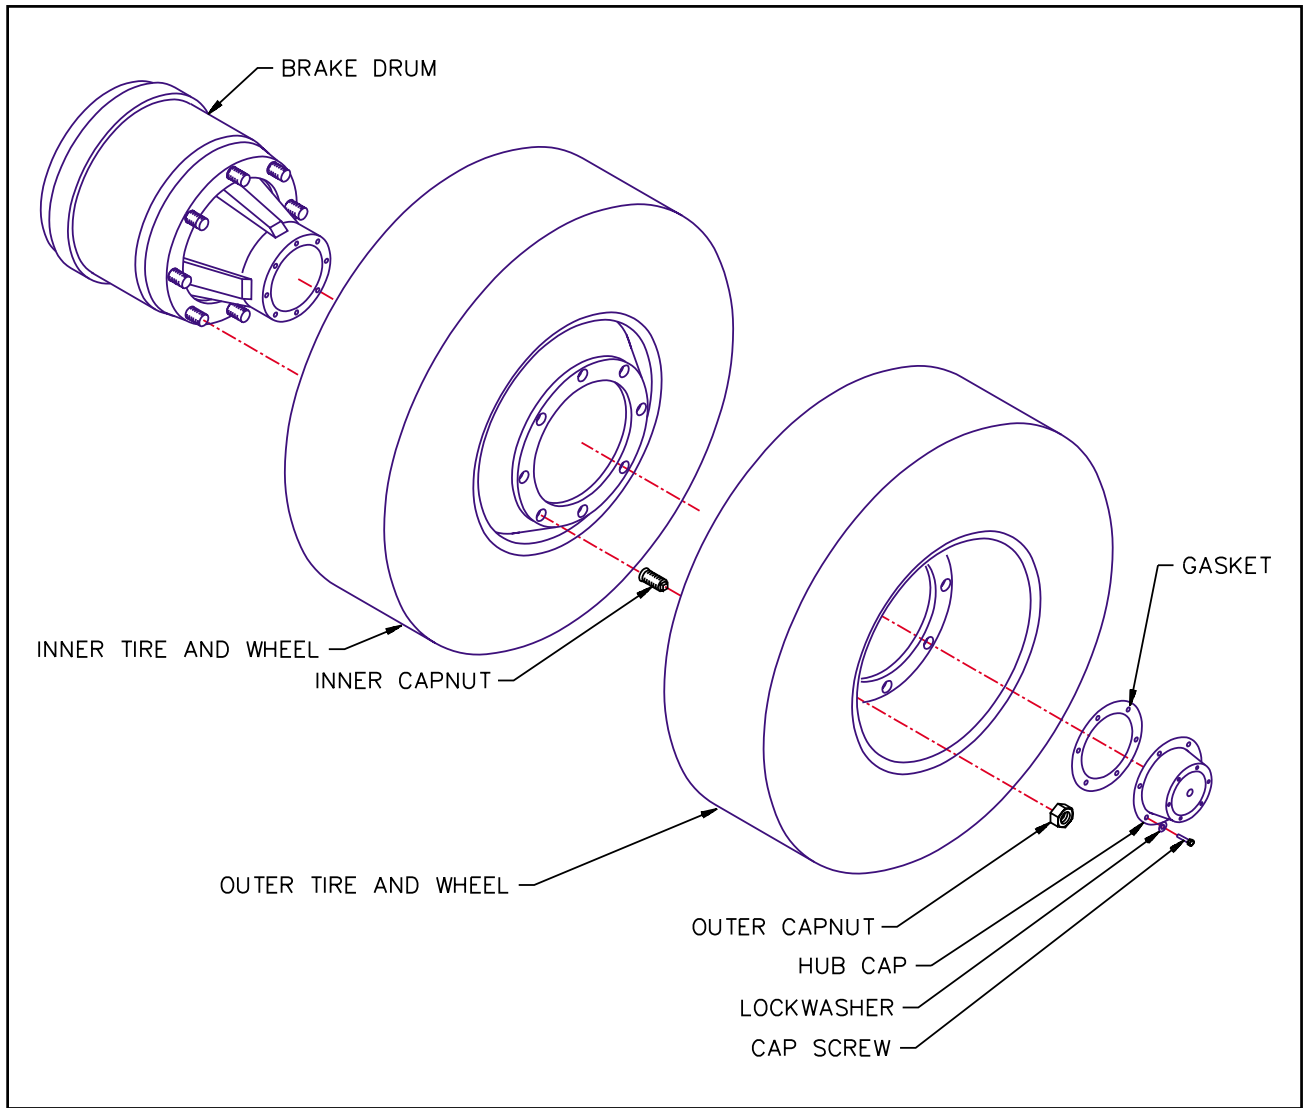

Figure 4-18 Mounting Tires and Wheels
- a. Make sure that all mounting surfaces are clean and free of rust, dirt or paint. A wire brush may be used to clean these surfaces (See Figure 4-18).